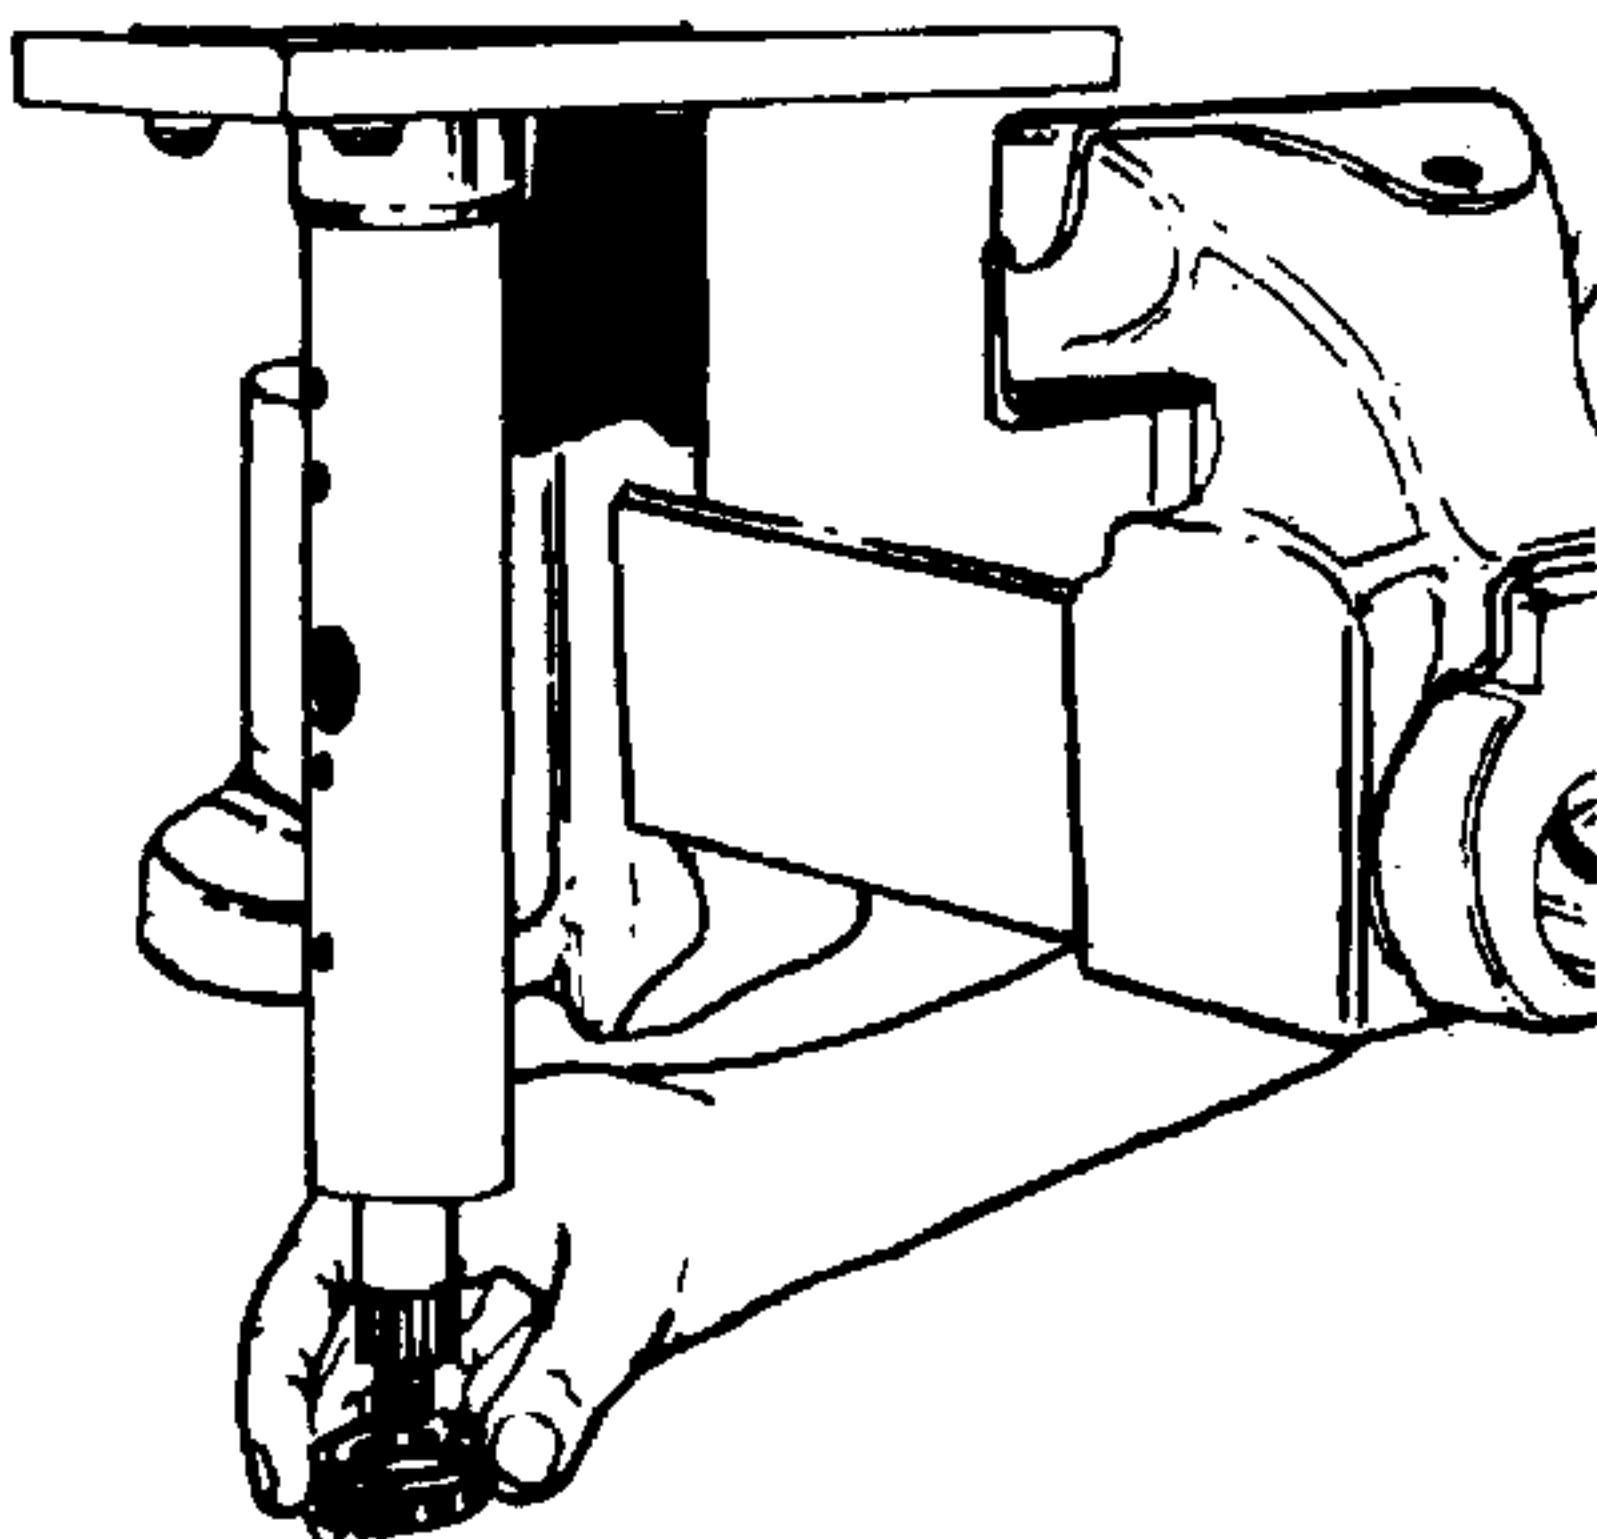

Figure 4-36. Removing Seal From the Tube.
42. Slide seal (37, Figure 4-1) from the tube. If the seal is worn or damaged, it must be replaced. See Figure 4-36.